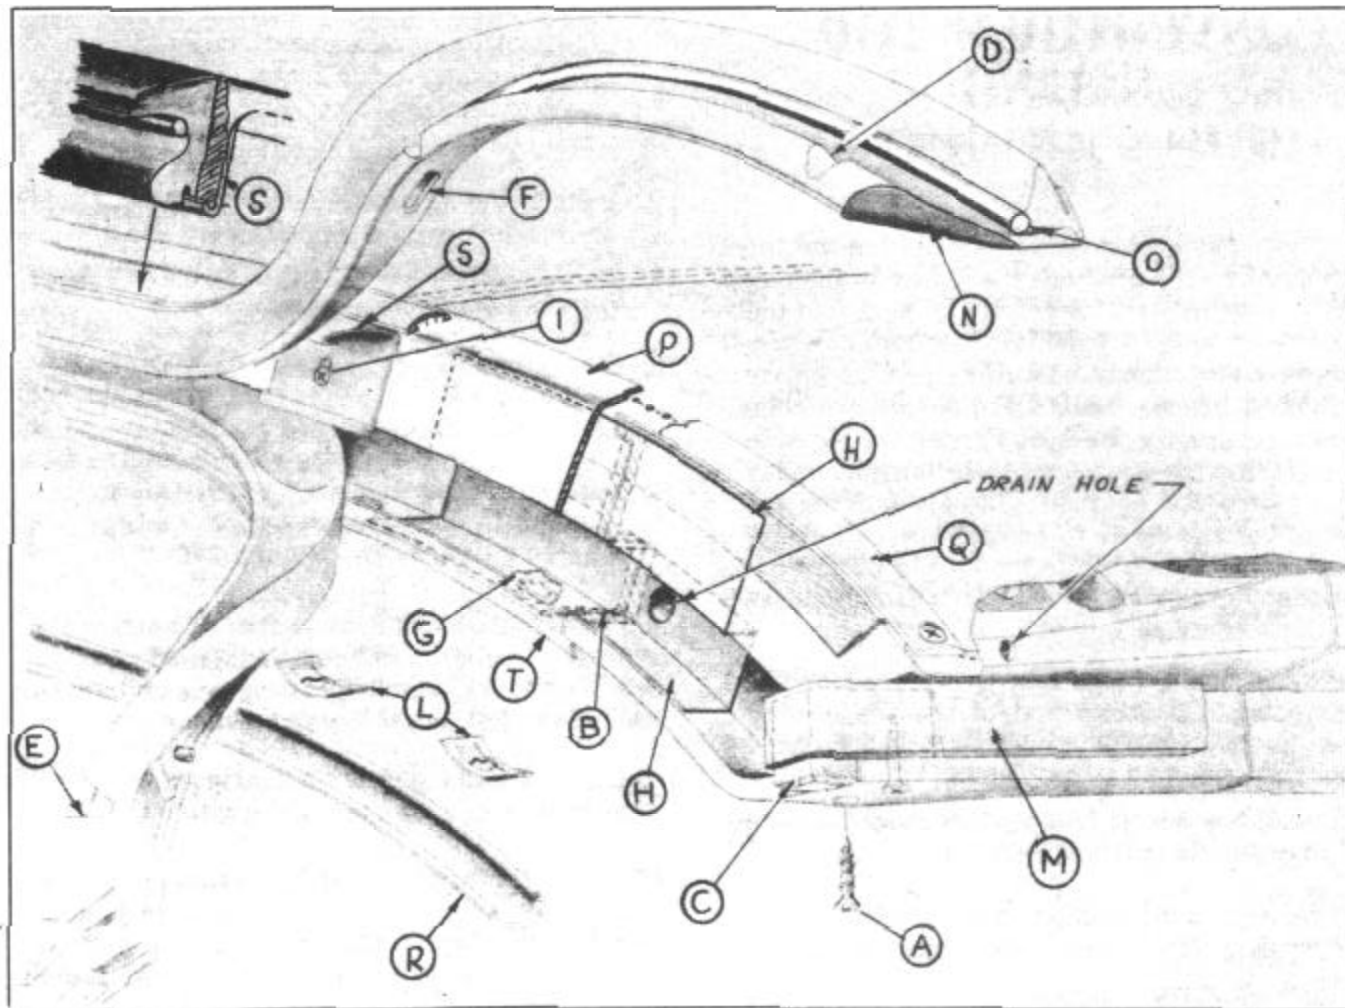

FIGURE 190
2. Remove front header lower inside chrome moulding (R), Figure 190. (Snap-on type.)
3. Remove the first two Tinnerman nuts (L) at moulding retainer at the side where leak occurred.
4. Remove the inside corner screw (A) from the bottom of the header (to release end of lower weatherstrip).
5. Turn the lower weatherstrip back to expose the lap joint (B) between the header casting and sheet metal panel.
6. Apply a strip of Body Caulking along header joint (B) and at hole (G) to obtain a complete seal; then cover with Mystik Tape as shown at (H).
8. Seal at header corner with Dolphinite sealer and install fibre blocks at (C).
9. Apply rubber cement in the channel and on the lower and back face of the header lower rubber. Reassemble lower rubber seal in channel and secure the weatherstrip end by installing screw (A).
10. Install the two Tinnerman Nuts (L) and the inside chrome moulding (R).
12. If the top lip of the front header upper seal does not press firmly against the body front header at any point along the body header, remove the seal from the retaining channel back to the point or points in question to expose the upper retaining screws (I), Figure 190.
**CAUTION: Recheck drain holes in header after lower rubber has been installed to determine that the drain hole is open and in line with recess (E) in the lower rubber.**
14. After retainer adjustment has been properly made tighten all moulding screws (I); apply rubber cement to back face or rubber seal and install upper seal (N).
**NOTE: Be sure, when installing the upper seal, that the depressions for screws head clearance (17 in number) shown at (E) in the back face of the rubber seal are in their proper position and line up with the retainer screw heads. Notch (D) in nearest end of the upper weatherstrip must be in line with notch (E) in the lower weatherstrip.**
1. Remove lower inside chrome weatherstrip (R), Figure 190.
2. Remove the thirteen Tinnerman Nuts (L) retaining the weatherstrip retainer to header and weatherstrip.
3. Remove screws (A) one each side of header.
4. Pull corner seal (M) loose from lower seal.
2. Remove top front header rear chrome moulding (Q), Figure 190, and moulding retainer, (narrow moulding).
1. Remove old rubber cement at top header and check Mystik Tape (H), Figure 190, to be sure it completely covers header joint (B).
2. Install weatherstrip seal (P) (Alumiseal Tape No. 217342) over tacking strips allowing approximately 1" to overlap header (as shown) for the complete length of the header.
3. Install top finish moulding (S) and screws (I), installing center screw first and working to both ends adjusting moulding up or down as required.
**NOTE: Trim each end of weatherstrip as shown at (N) and (O), Figure 190. Trim area (N) so that the upper weatherstrip will not interfere with the end screw retaining moulding (S) and form a good seal at the corner with the top lower seal.**
5. Trim both ends of the top upper seal (N), Figure 190, so that it is flush along the top of the side header triple lip seal and the top of the front header lower seal.
3. If the rubber filler (M), Figure 190, is to be replaced, apply rubber cement to the top and inside surfaces of the new rubber filler (M), and install the filler to the outside forward end of the header with front flap of filler cemented across the front of the fibre block (C).